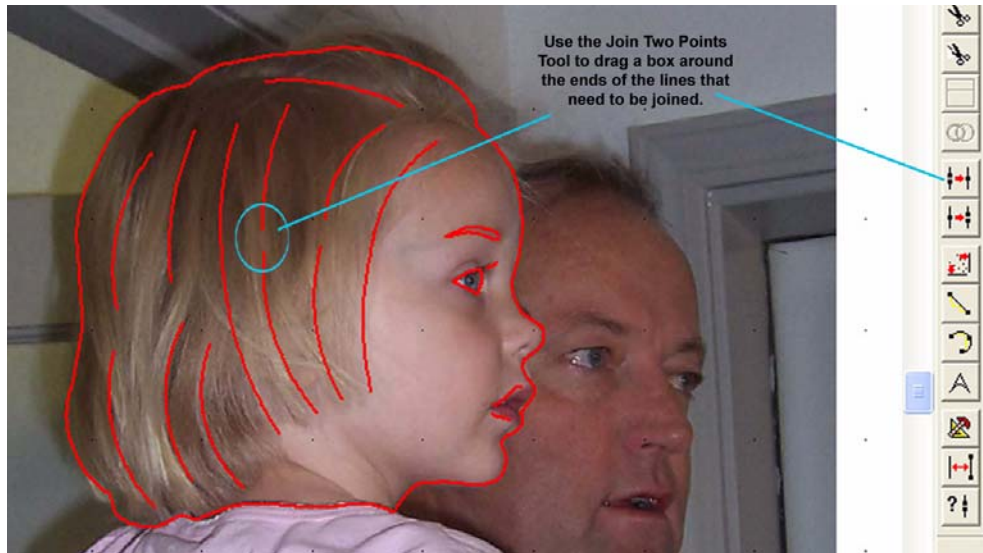

Figure 134
- 4** Use the **Join Two Points** tool to connect the ends of lines. Click and hold down the mouse button while dragging around the end points that need to be joined. When you release the mouse button, the ends should join together. See figure 134.